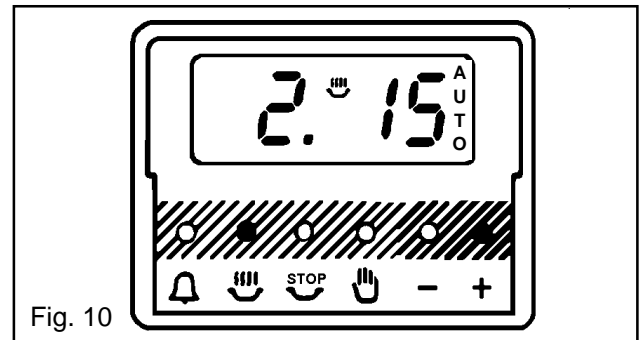

Fig. 10
- iii) To set the length of cooking time, press the cooking hours button (☰) depress the increase control (+) until the required length of cooking time is displayed, e.g. 2 hrs 15 mins as Fig. 10. Depress the decrease control (-) if necessary.